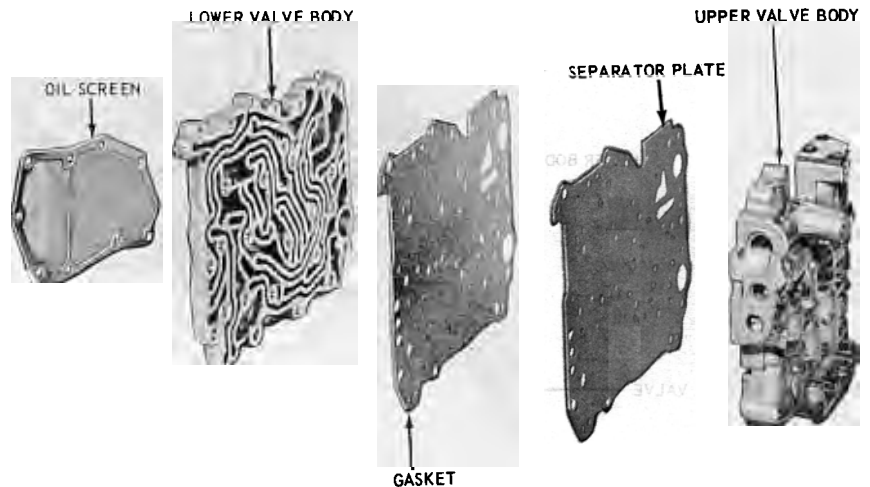

FIG. 63—Upper and Lower Valve Bodies Disassembled
1. Remove the screws that attach the oil screen to the body and remove the screen (Fig. 63).